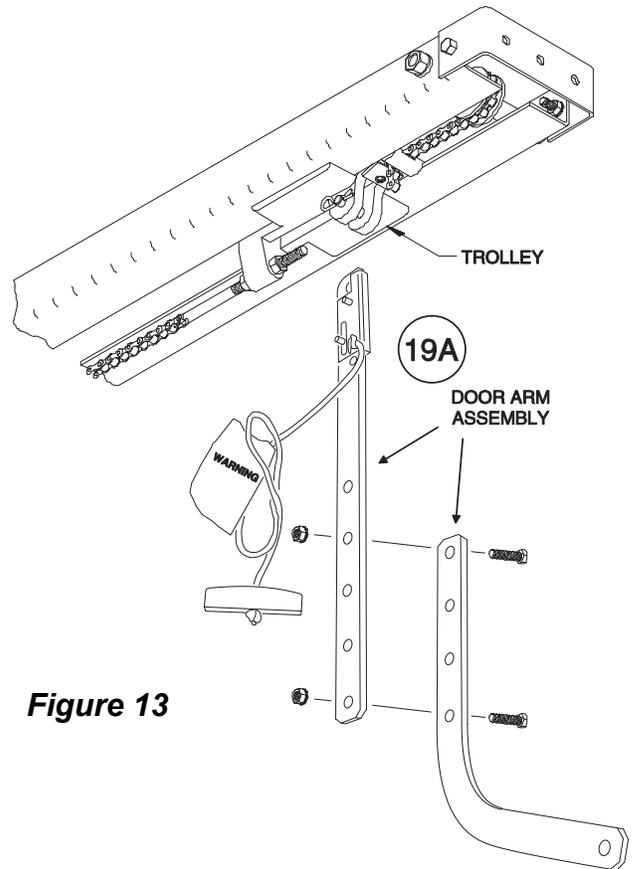

Figure 13
9) Fully close the door and move the trolley to within 2 inches of the idler sprocket. Using Figure 13 as a guide, connect the release arm (Item 19A) to the trolley. Connect the door curved arm to the door release arm with two 5/16 inch bolts and keps nuts.